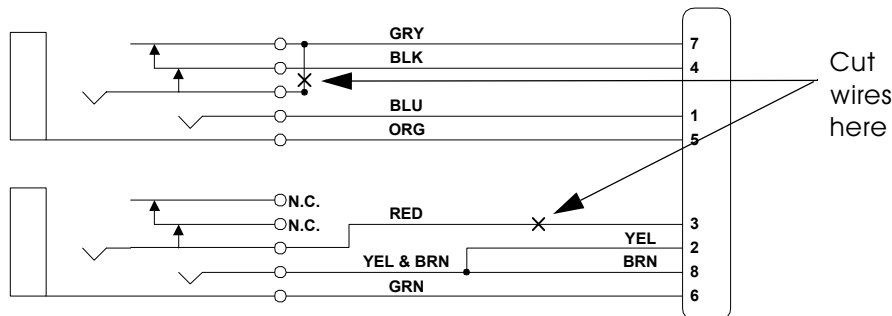

Figure 4-9: Modifying a Six-wire Jackbox (BLN7074)
2. Cut the RED wire and the jumper wire as shown in Figure 4-9.
1. Open the jackbox cover. Use a Phillips screwdriver to remove the four (4) screws in its base.
3. Use a Phillips screwdriver to remove the two (2) screws holding the PC board to the jackbox housing.
4. Cut the wire for jumpers S1 and S2 (circled in Figure 4-9).